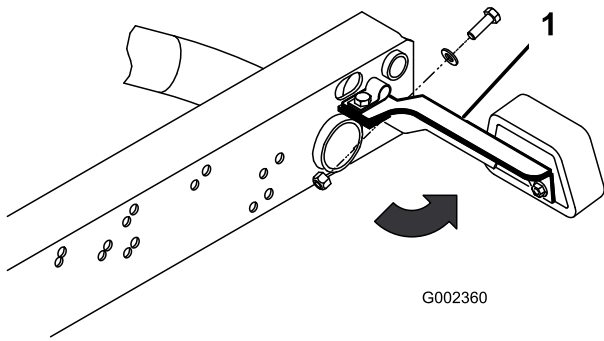

Figure 3
1. Loosen the locknuts and bolts securing tail light brackets to right and left frame brackets (Figure 3).
- Secure rear of each tail light bracket to rear of frame brackets with a 5/16 x 1 in. bolt, .344" I.D. flatwasher and locknut, as shown in Figure 3.